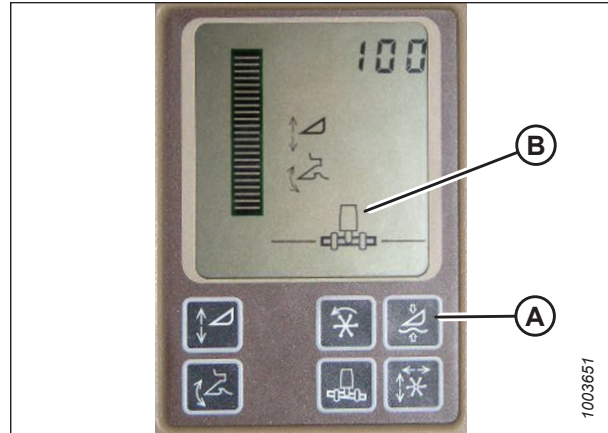

Figure 3.441: John Deere Combine Display
Do **NOT** use active header float function (A) in combination with the MacDon auto header height control (AHHC)—the two systems will counteract one another. Header symbol (B) on the display should **NOT** have a wavy line under it and should appear exactly as shown on the Active Header Control Display in Figure 3.441, page 274.